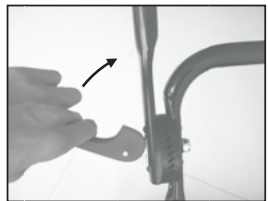

Fig.2D
3. Push the locking lever closed to lock the handlebars in the operating position. (Fig.2D)